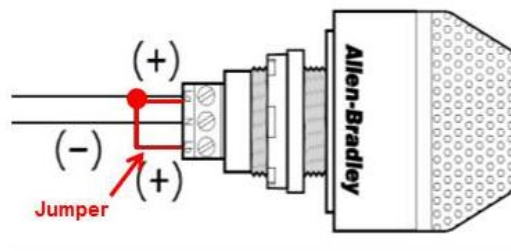

Figure 4-13: Jumper on RSL
- A. mounted on the ROBOT such that it is easily visible while standing three (3) ft in front of the ROBOT,
- C. wired for solid light operation, by placing a jumper between the “La” and “Lb” terminals on the light per Figure 4-13.